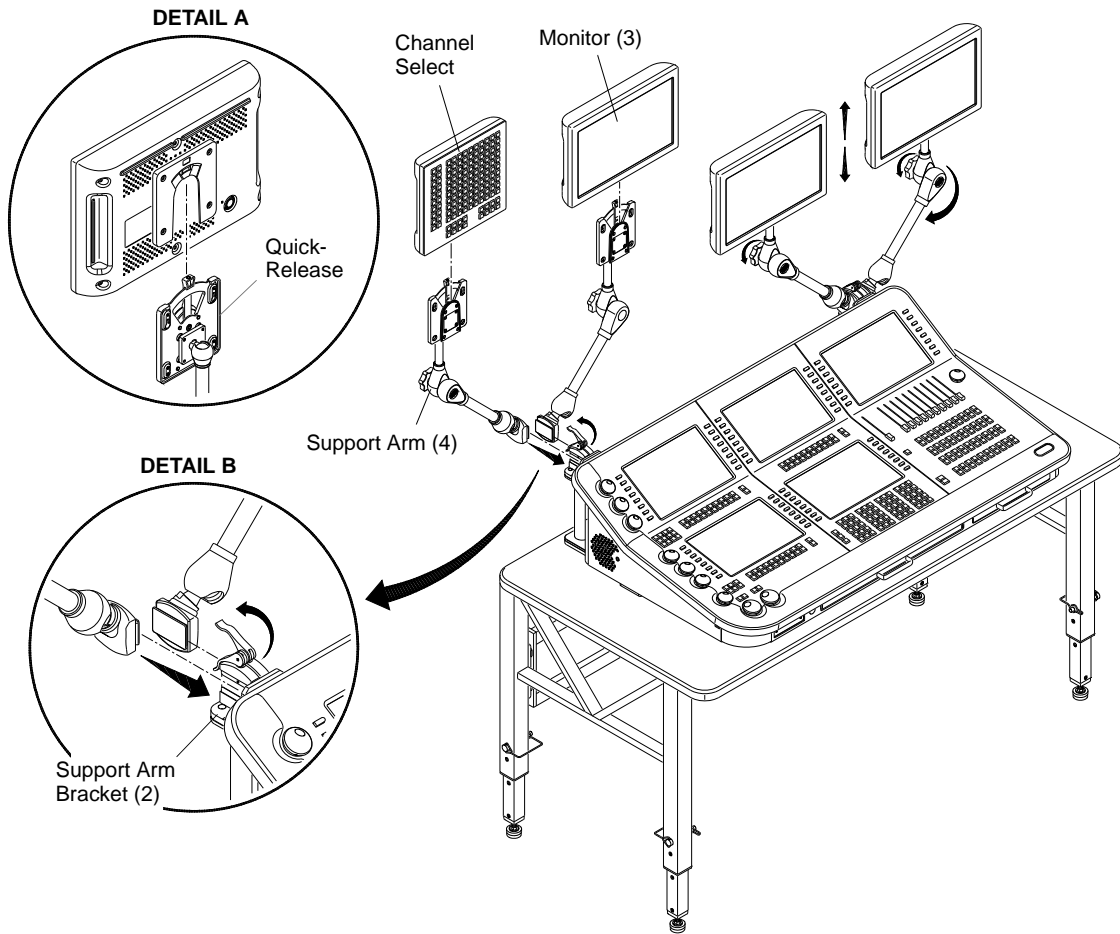

Figure 1-6: Installing V676 Channel Select Panel and Monitors
- Step 6. At rear of console, install four support arms as shown in Detail B of **Figure 1-6**.
- Step 7. Slide Channel Select panel and monitors down onto support arm quick-release connectors as shown in Detail A of **Figure 1-6**.